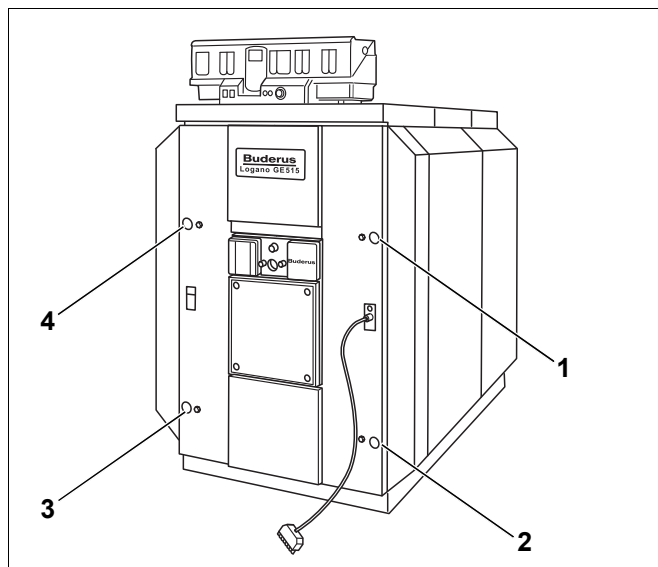

Fig. 71 Burner door fixing
- Loosen the four bolts securing the burner door on the front sections (Fig. 71, **[1]** to **[4]**).